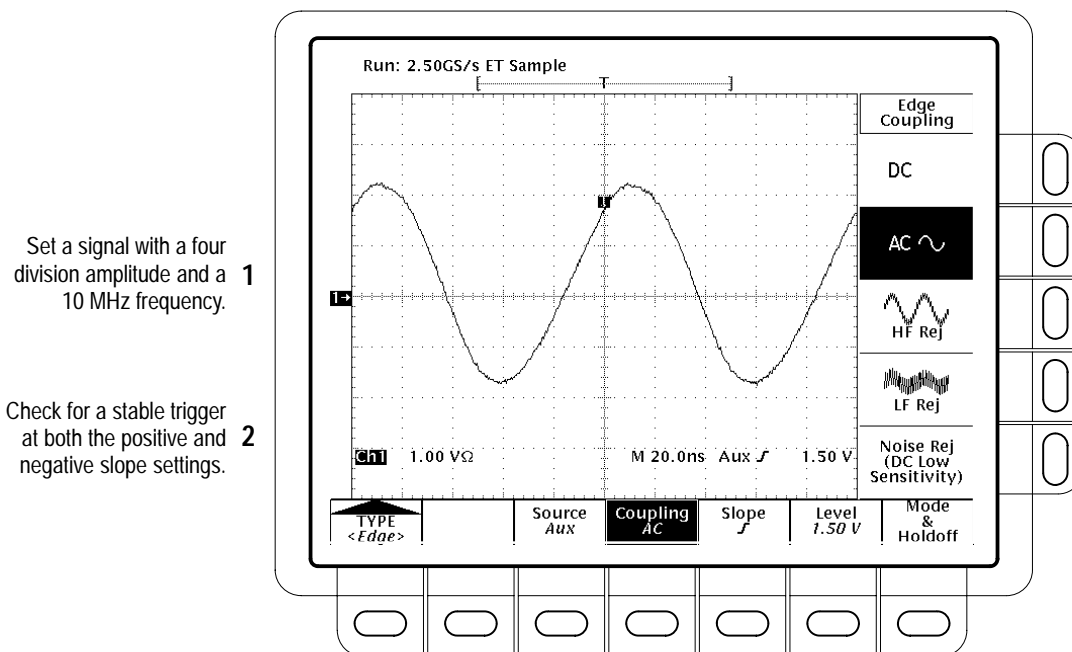

Figure 4–16: Confirming Auxiliary Triggering at Maximum Triggering Frequency
- Read the following definition: A stable trigger is one that is consistent; that is, one that results in a uniform, regular display triggered on the selected slope (positive or negative). This display should *not* have its trigger point switching between opposite slopes, nor should it “roll” across the screen (see Figure 4–16).